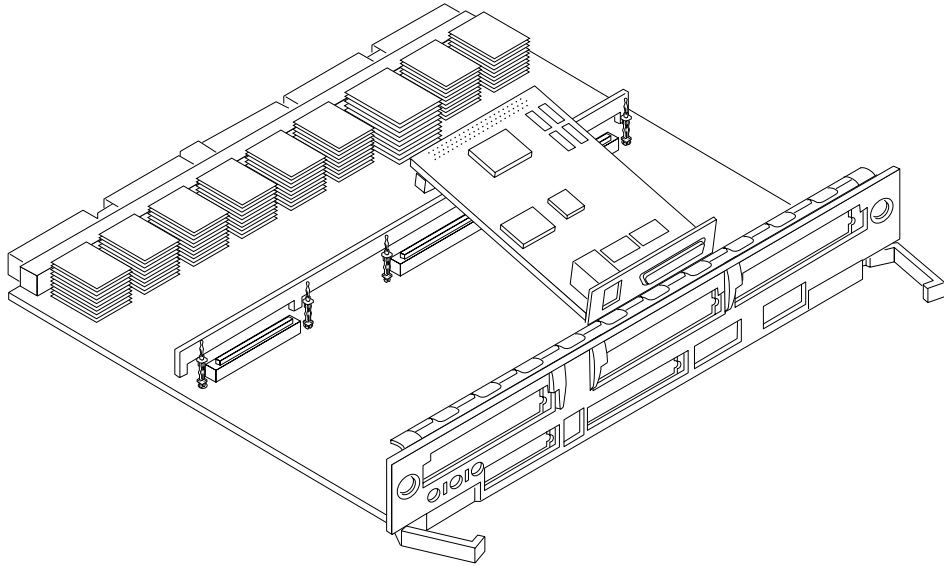

FIGURE 4-15 Removing or Installing an SBus Card
6. Lift the SBus card from the socket at an angle while guiding the face plate out from the back panel opening (FIGURE 4-15).
See FIGURE 4-15 on page 4-20. The I/O connectors of the SBus card should be visible through the opening in the back panel.
12. **Replace and tighten the back panel screws to secure the card to the Graphics+ I/O board front panel (FIGURE 4-15).**